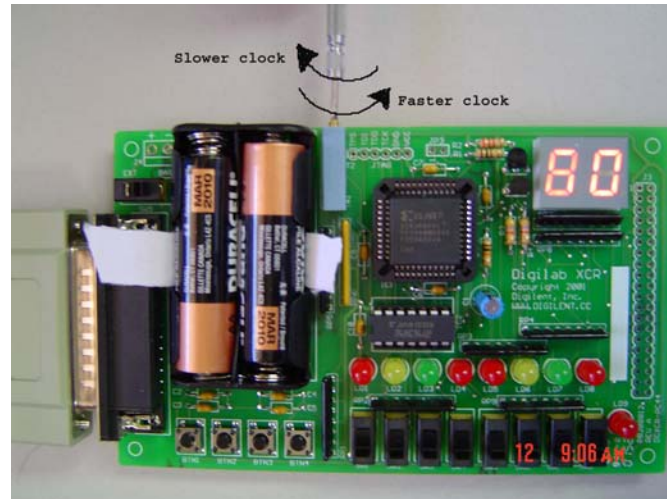

Figure 10; Clock setup by moving potentiometer
7. Test the clock; The XCR board provides a user-adjustable oscillator that can produce a clock signal in the 0.5 to 4 KHz range. The frequency is fixed by a 15-turn precision potentiometer (variable resistor) that can be adjusted from 0 to 500K ohms. Vary the value of the potentiometer as shown in figure 10 (slowly please!!!). Explain to your T.A what is happening (Hint: remember from lecture notes, the dual-digit seven segment display is multiplexed in time).